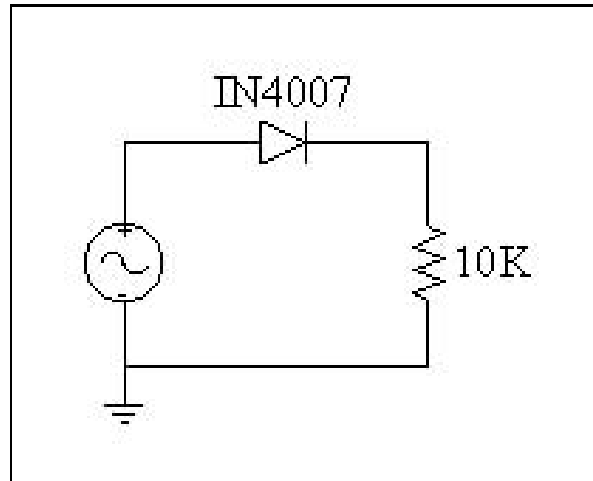

Figure 1.1: Positive Half-Wave Rectifier
1. Set up the circuit in Fig. 1.1. For this circuit and all others in this lab, use the 1N4007 diodes that are in your lab kit.
1. Sketch the voltage signal before and after the diode in Fig. 1.1, as a function of time. Take the input signal to be $V(t) = 3\sin(2\pi 100t)$, where t is in seconds.